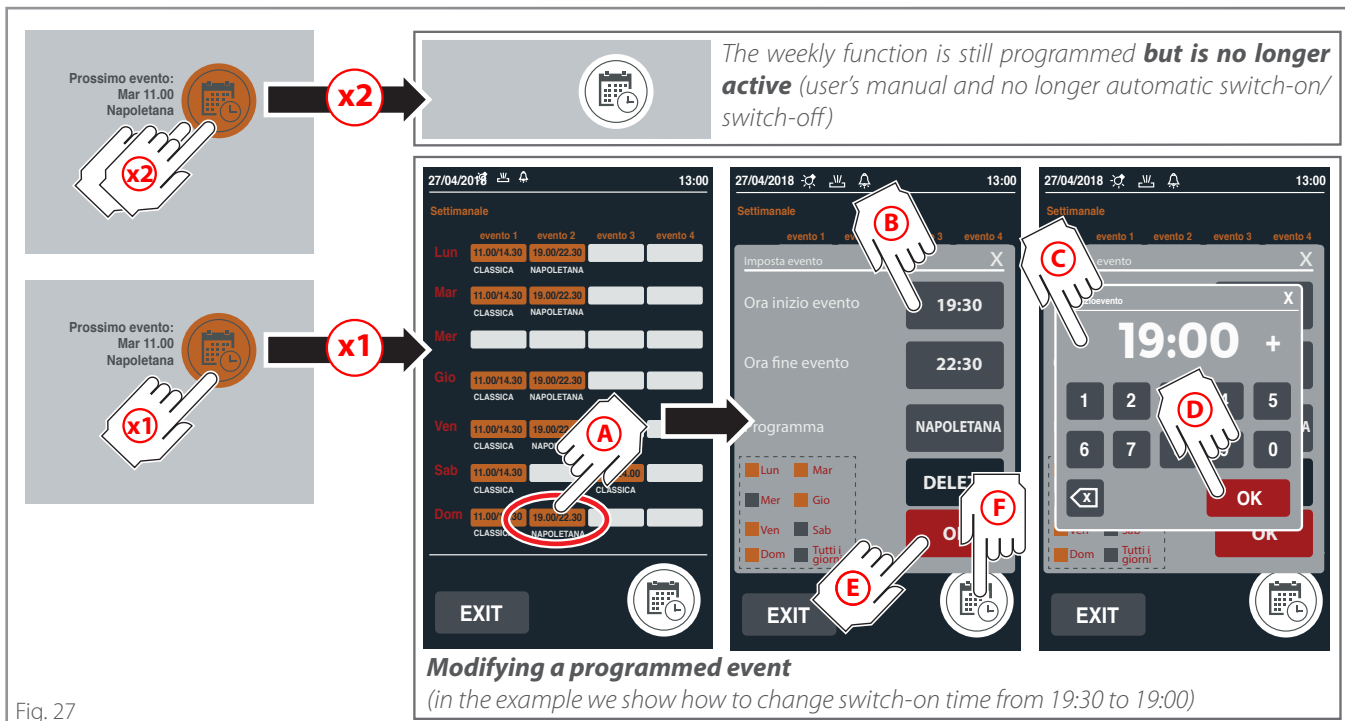

Fig. 27
- (M)** At the end, make the weekly function operational touching the icon in the bottom RH corner. If it is:
► Fig. 27
To **cancel** the whole program (user's manual and no longer automatic switch-on and switch-off) see the figure ► Fig. 27 (x2)
To **modify** an event, see the figure ► Fig. 27 (x1)